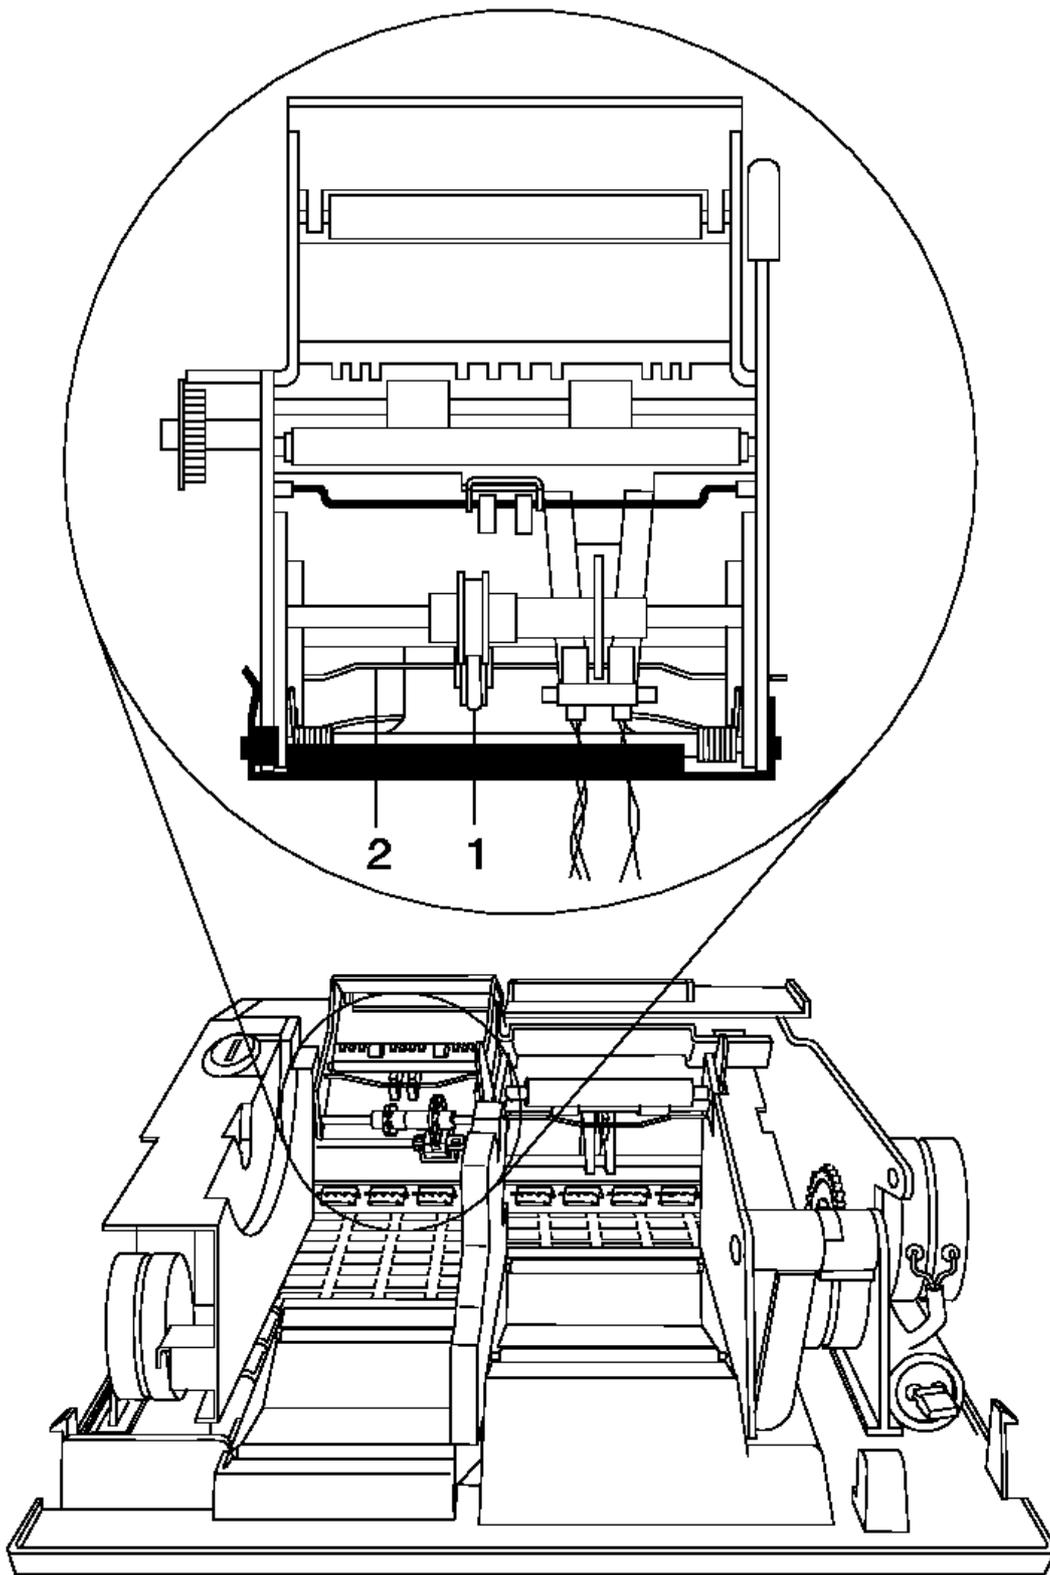

Figure 6-22. JNL Assembly
- See Figure 6-22.
- Ensure that the O-ring (1) that turns the emitter wheel is on the emitter wheel rim.
Put the O-ring back on the emitter wheel rim. See Figure 6-22.